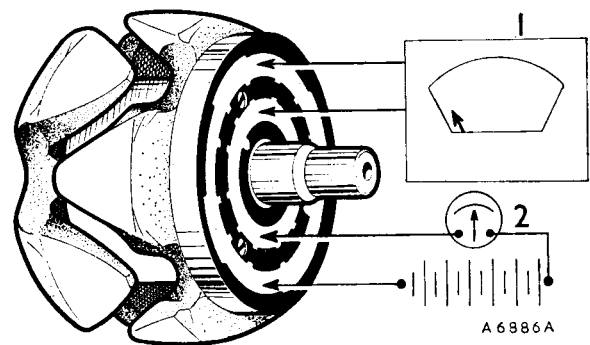

Fig. N.10
- Test the rotor windings by connecting an ohmmeter, or a 12-volt battery supply and ammeter in series, between the slip-rings (Fig. N.10). The resistance or current of the field coils should be as given in 'GENERAL DATA'.